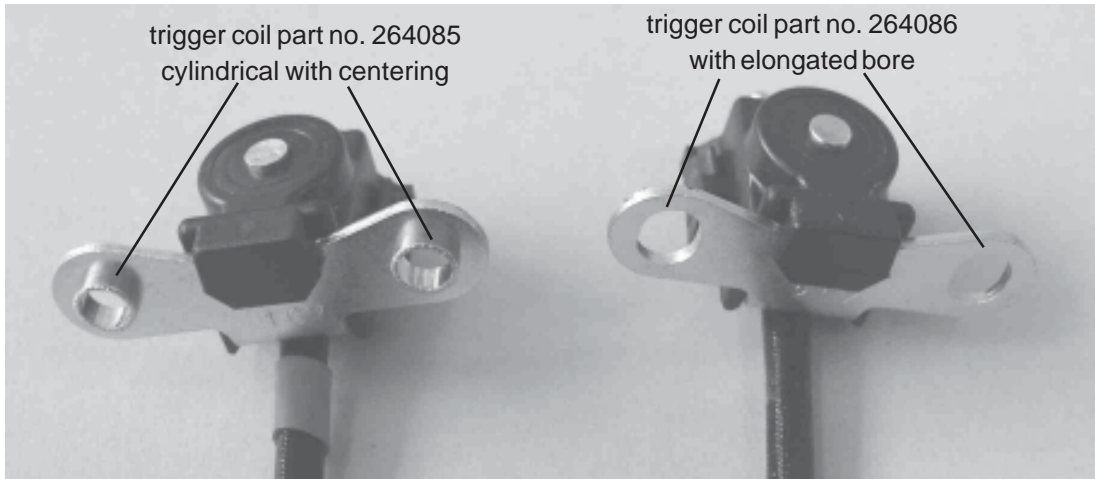

fig. 20 07138
(see fig. 20, 21, 22)
- The cylindrical fixation bore with centering are now carried out as elongated bore (fig. 20).